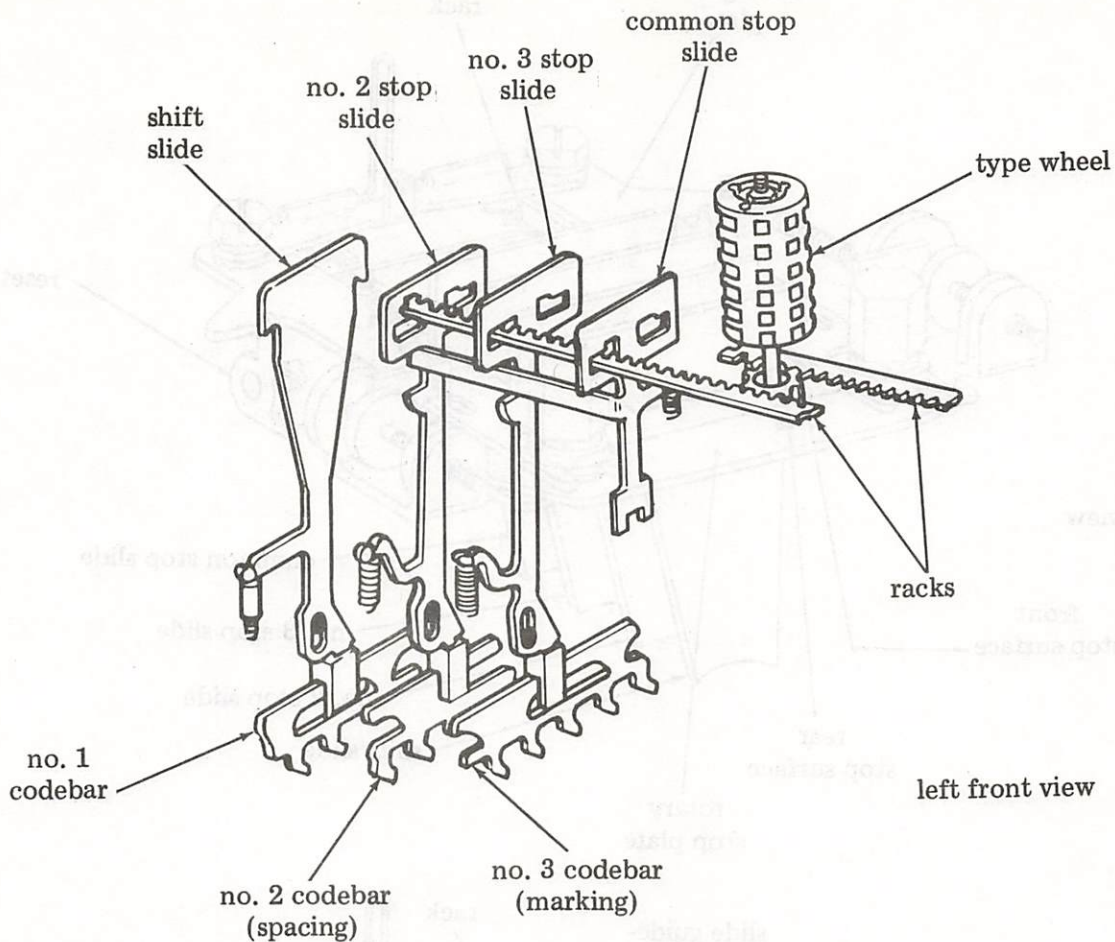

Figure 27 - Rotary Positioning Stop Slides
4.61 This motion continues until the end of one of the racks strikes a stop slide (Figure 27). At this time, the type wheel is correctly positioned in the rotational direction.
4.62 How far the type wheel rotates in either direction is determined by the no. 1, no. 2, and no. 3 codebars. The no. 1 codebar controls the position of the shift slide, while the no. 2 and no. 3 codebars control the positions of the no. 2, no. 3, and common stop slides. These stop slides ride the codebars, and are up when the codebars are marking and down when the codebars are spacing (Figure 27).
4.64 The position of each stop slide determines how much the rack will travel before it is stopped. When a stop slide is down, it blocks the rack; when it is up, the rack will pass through a slot in the slide and continue to travel until blocked by another slide. The shift slide has no slot. It will block the rack whether it is up or down (Figure 27).